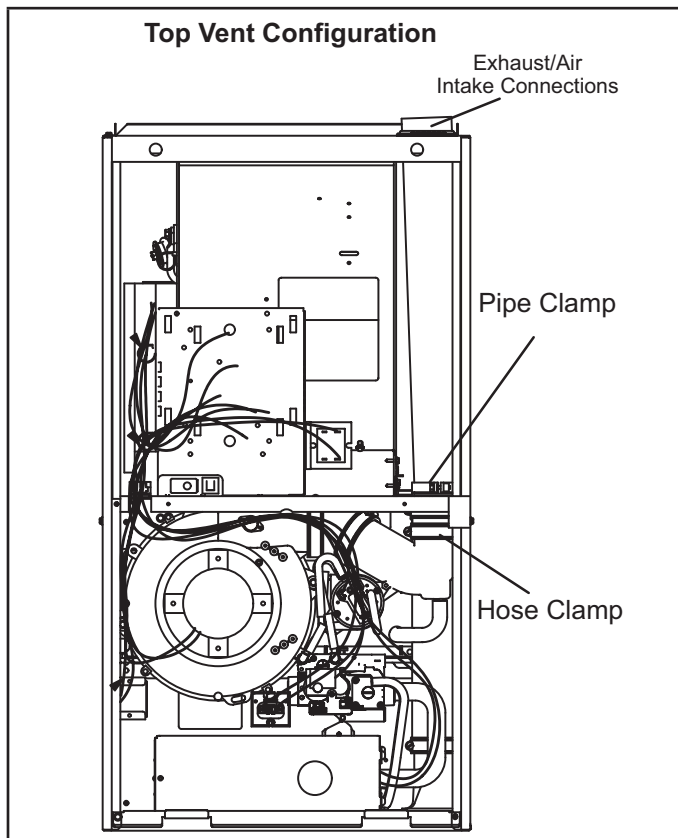
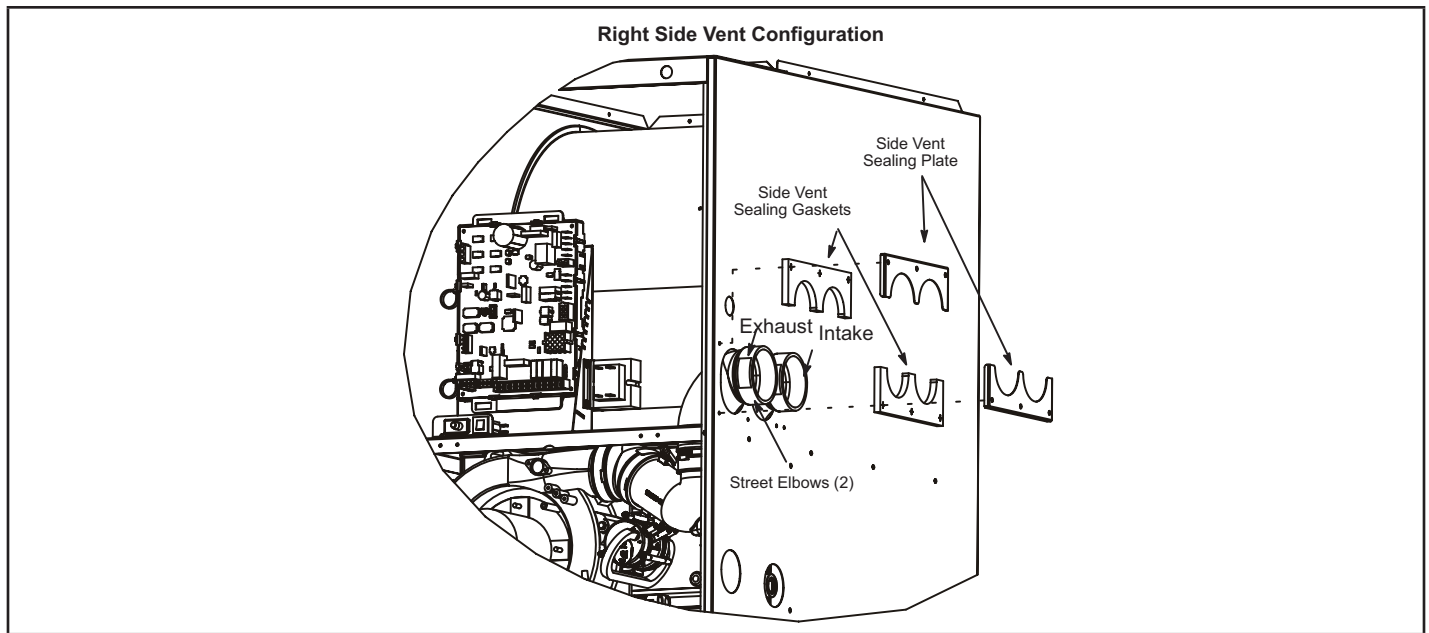

FIGURE 20
FIGURE 23
The EL297DFEK is shipped with vent exhaust / air intake connection at the top cap. See FIGURE 20. Using parts provided, the furnace may be field modified to have these connections on the right side of the furnace cabinet. See FIGURE 23 and follow the steps below. For left side venting order kit 87W73.
- 2 - Loosen hose clamps which attach rubber fittings to the white PVC pipes inside the vestibule area. See FIGURE 20.
- 3 - Loosen the clamp which secures the pipes at the blower deck. See figure 20.
- 11 - Peel protective backing from side vent sealing gaskets (2) and apply to side vent sealing plates (2) as shown in FIGURE 23.
- 12 - Install the side vent sealing plates and gaskets on the exterior of the cabinet as shown in FIGURE 23. Secure with six mounting screws (four reused and two provided from bag assembly). Holes are pre-punched in the parts and cabinet, no drilling is required.